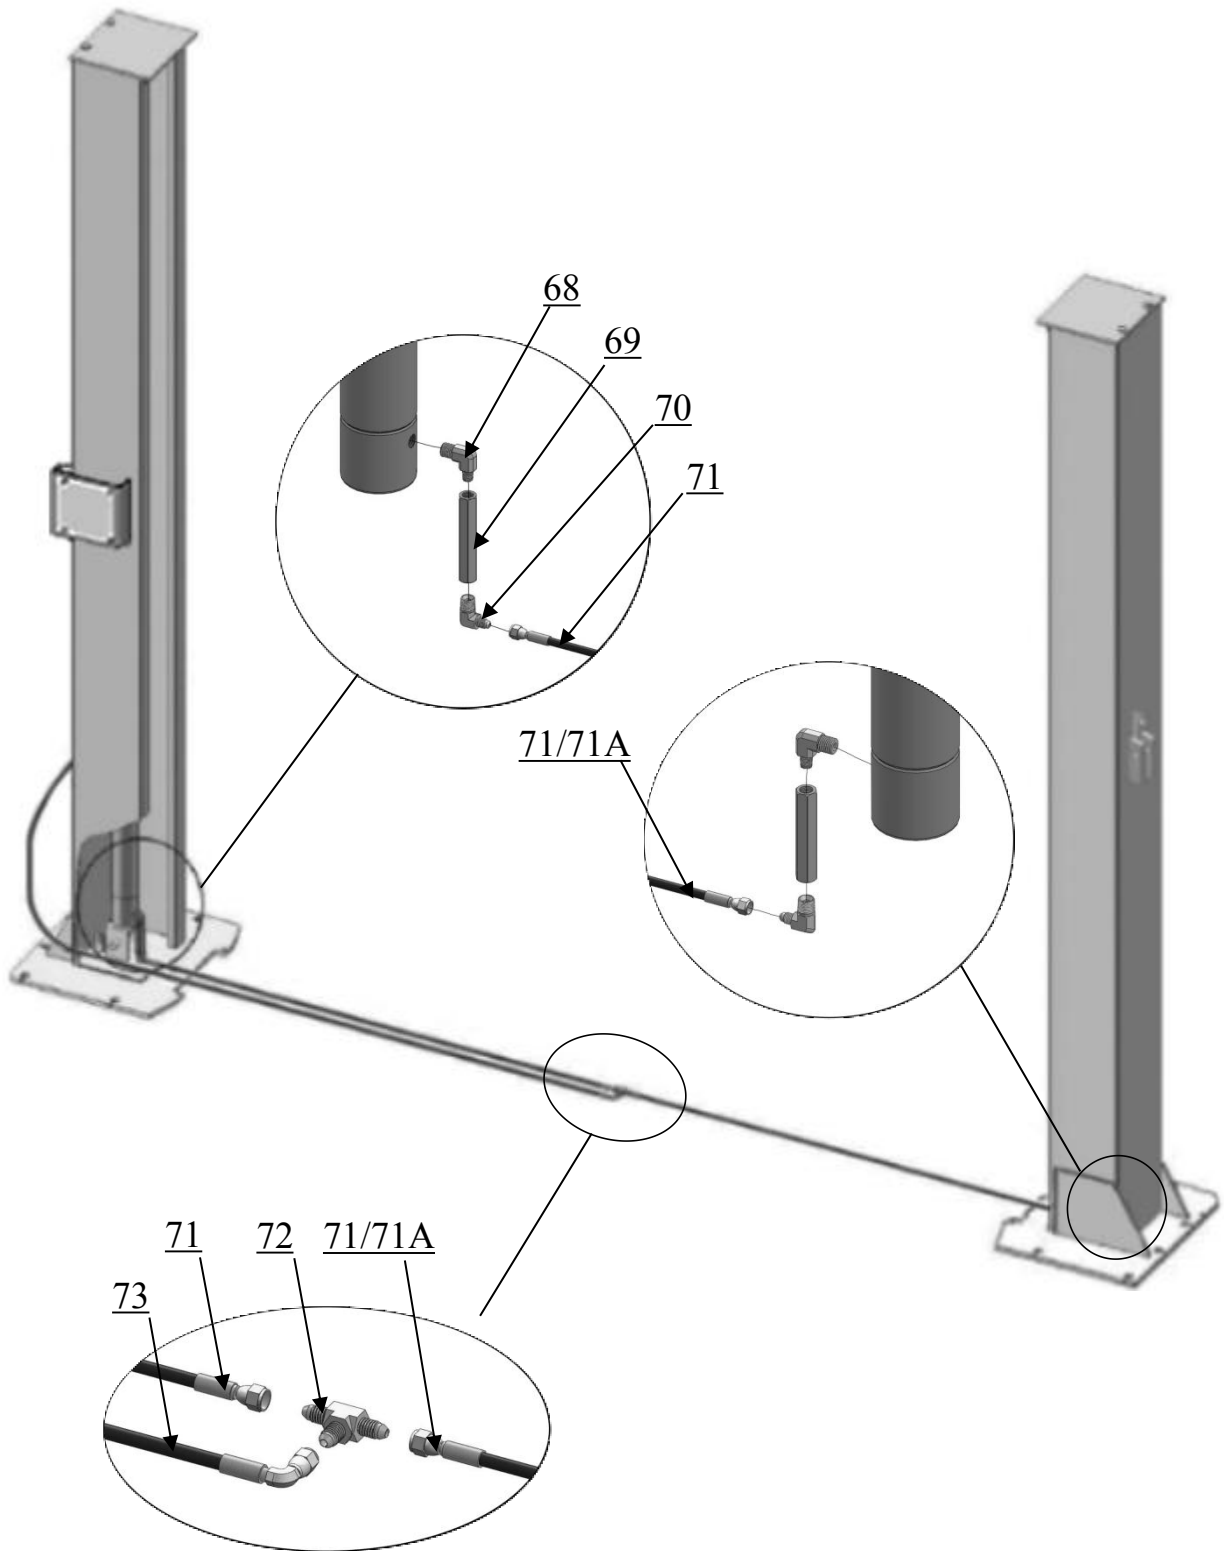

Fig.20
I. Assemble oil hose assy.(See Fig. 20)